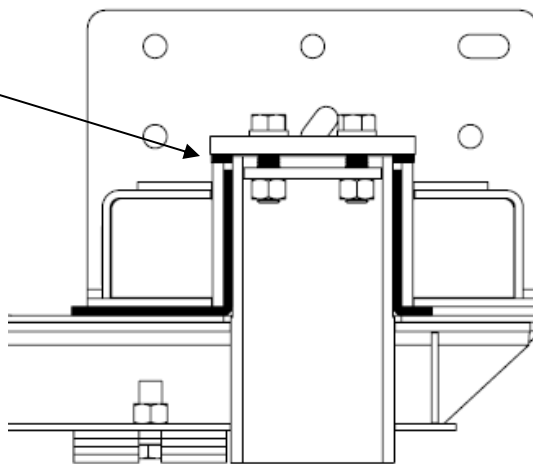

Figure 16
7. Before attempting to fully tighten the (4) 5/8-11 cap bolts, it is necessary to check that the upper wear disc is properly positioned. Refer to the figure below (figure 16).